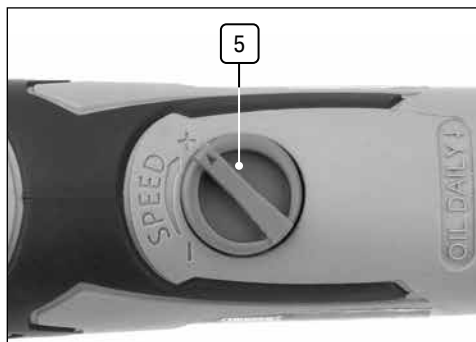

Fig. 6
7.3 Speed Selector (Fig.6)
- Turn the selector (5) between (-) and (+) to choose the most appropriate speed for the application.